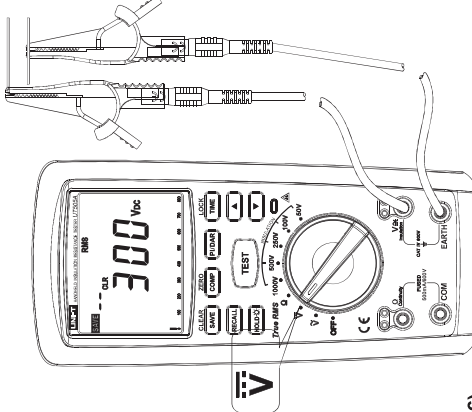

Figure 5
2. DC voltage measurement (See Figure 5)
- ① Insert red test pen in "V~" jack (red hole) and black test pen in "EARTH" jack (black hole).
- ② Push the rotating switch to the gear "V-" and connect test pen in parallel with the power source or to both ends of the load to be measured.
- ③ Directly read the measured voltage value from display.
- ④ To save the measured voltage value during measurement, just push the button "SAVE".